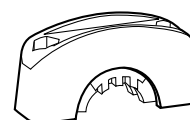

FIG. 4
- b. For cord sizes 0.75 to 0.95 - in diameter: Use Strain Relief Clamp with insert oriented as shown in Fig.4.